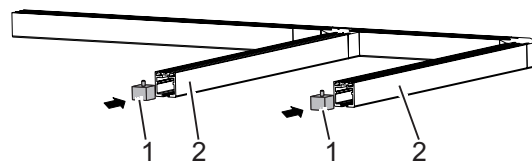

Fig. 4: Mounting the end stop
- ☞ End stops (Fig. 4/1) must be mounted in the stacking area on both ends of the tracks (Fig. 4/2).
5. Insert end stops (Fig. 4/1) into the track (Fig. 4/2).